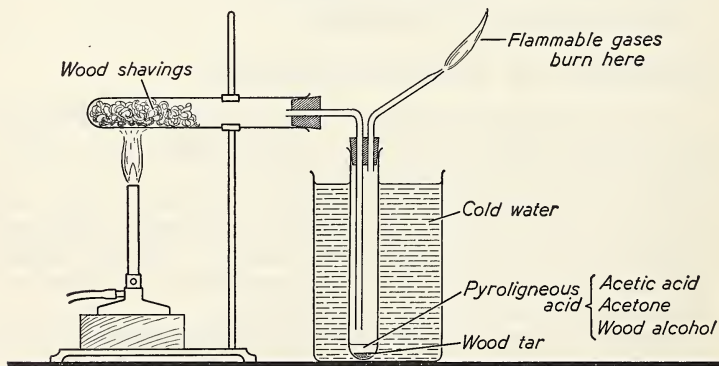

Fig. 55. The destructive distillation of wood.
1. Arrange the apparatus as in Figure 55, and insert either wood shavings or splints in the horizontal test-tube. Heat the test-tube with a moderate flame, and observe all the changes that take place.